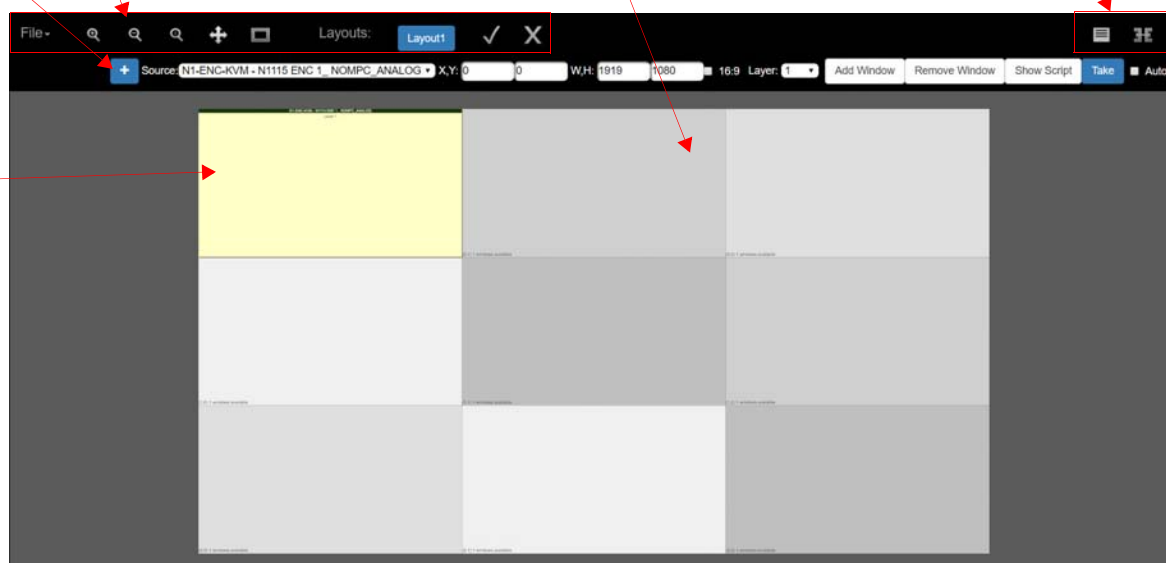
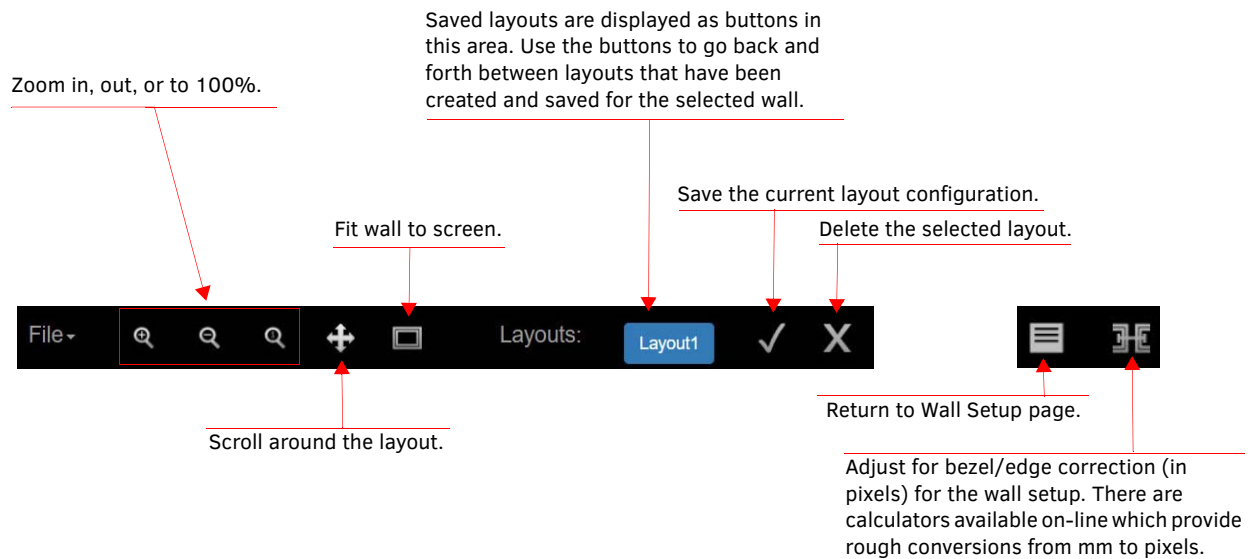

FIG. 52 Arranging the Wall
FIG. 53 Wall Arrangement Page: Top Menu Bar Icons
- The screen shown in Figure 52 appears. Refer to the guidelines and option descriptions given in Figure 52, Figure 53, and Table 33 as you create your design.
Refer to Figure 53 for descriptions of this portion of the interface.